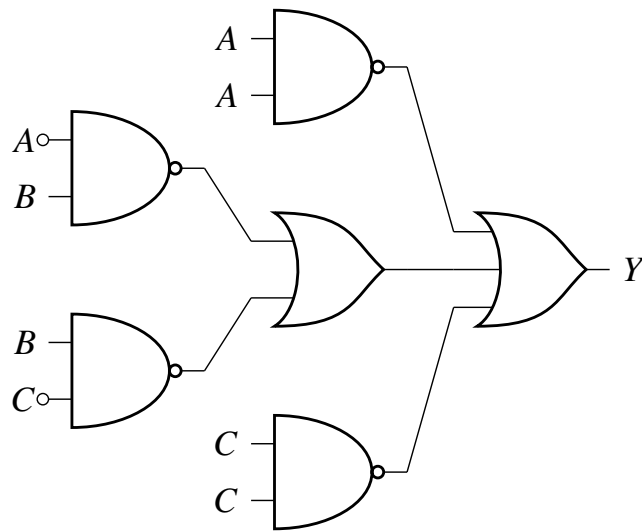

Fig. 3.5
13. Obtain the Boolean Expression for the Logic circuit shown below in Fig. 3.5. (GATE EC 1993)